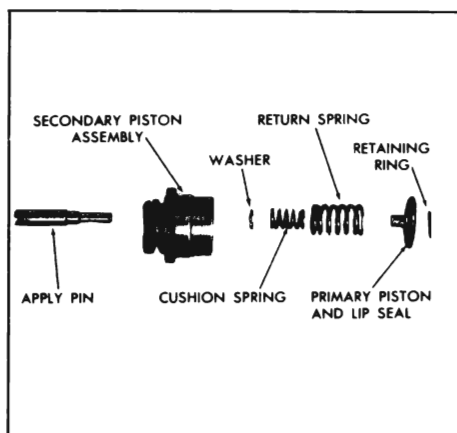

Figure 74-173
3. Remove primary piston, cushion spring, return spring, apply pin and washer from secondary piston assembly. See Figure 74-173.